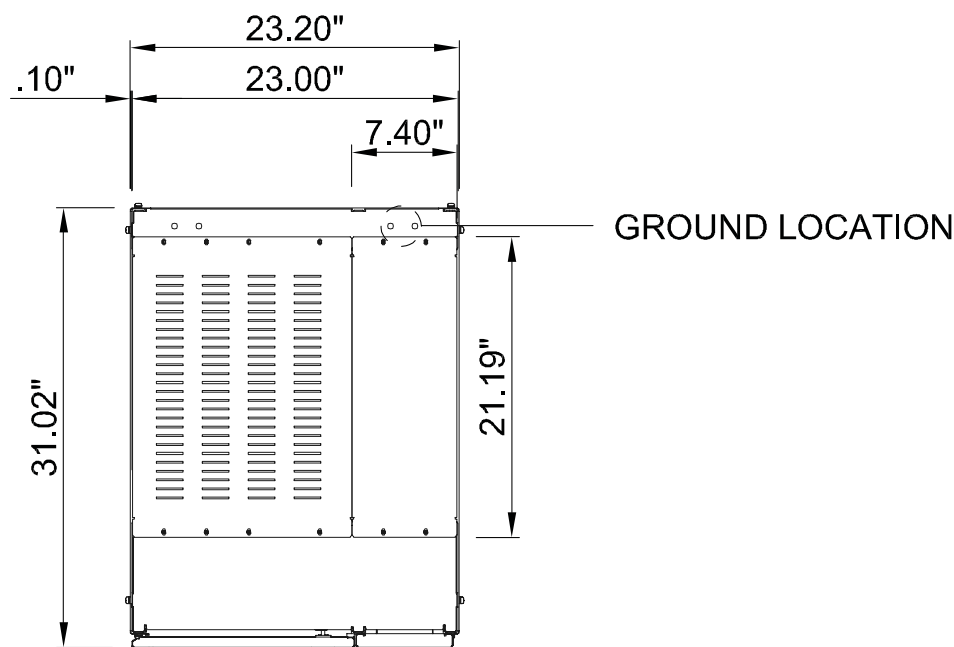
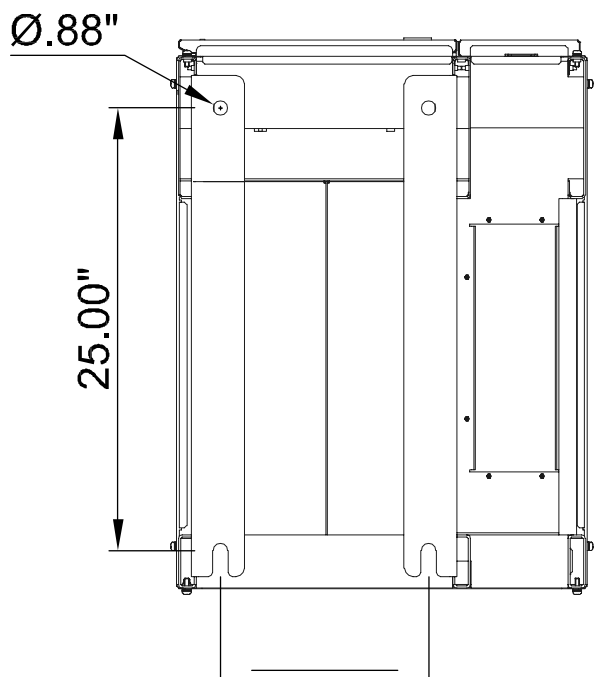
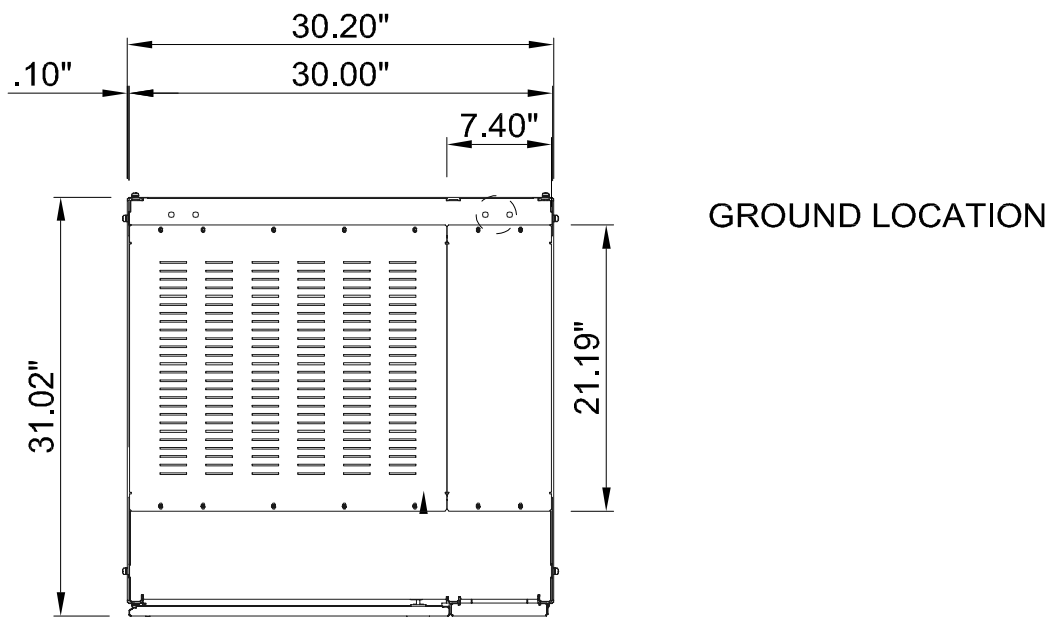
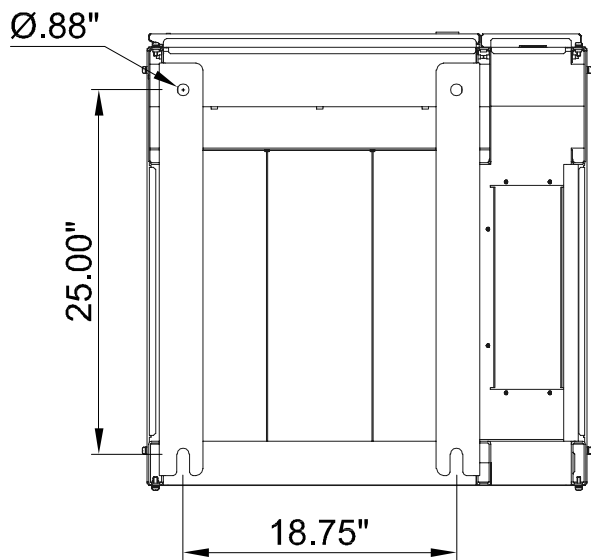

Figure 3-3: Top view of 20 module cabinet
Figure 3-4: Bottom view of 20 module cabinet
Figure 3-7: Top view of 30 module cabinet
Figure 3-8: Bottom view of 30 module cabinet
Read and understand the following notes while planning and performing the installation. It should be noted that the XLCM cabinet is capable of both top and bottom cable entry. See Figure 3-3, Figure 3-4, Figure 3-7 and Figure 3-8 for panel removal.
3. Remove the top or bottom conduit plate in the side car (see Figures 3-3, 3-4, 3-7 or 3-8) depending on the desired top or bottom feed configuration. Identify all conduit requirements and mark their location. Create all conduit holes in the conduit plate prior to mounting on the XLCM. Install the conduit plate and install all conduit runs into the plate. Pull the wiring through the conduit into the wiring areas.
1. Remove the top or bottom conduit plate (see Figure 3-3, 3-4, 3-7, 3-8) from the XLCM side car. Identify all conduit requirements and mark their location. Drill and punch all conduit holes in the conduit plate prior to mounting on the XLCM. Install the conduit plate and install conduit runs into the plate. Pull wiring through the conduit into the wiring area.